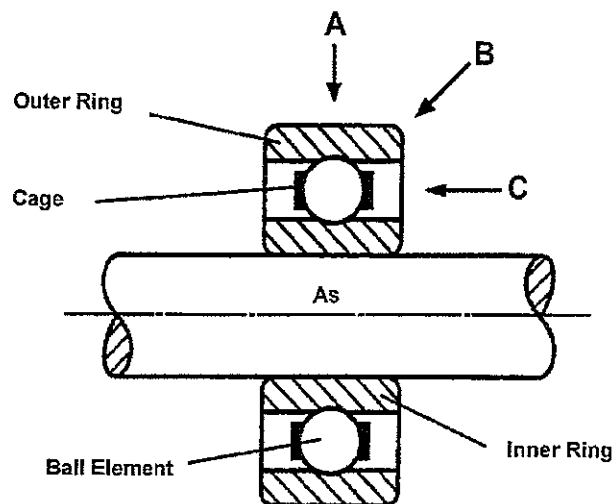

FIGURE 4
- 3.3 Refer to FIGURE 4 below and name the different types of bearing loads (AC) as indicated. Write the answers below one another in the ANSWER BOOK. (3)